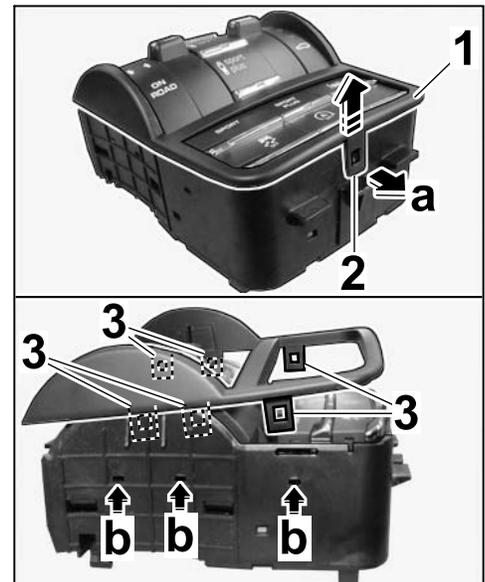

Figure 5
- 2.1 Release locking lug – at the front (⇒ *Figure 5 -a-*) and lift the trim up slightly (⇒ *Figure 5*).
Insert a small screwdriver into the housing (⇒ *Figure 5 -b-*) and **carefully** release the clips (⇒ *Figure 5*).